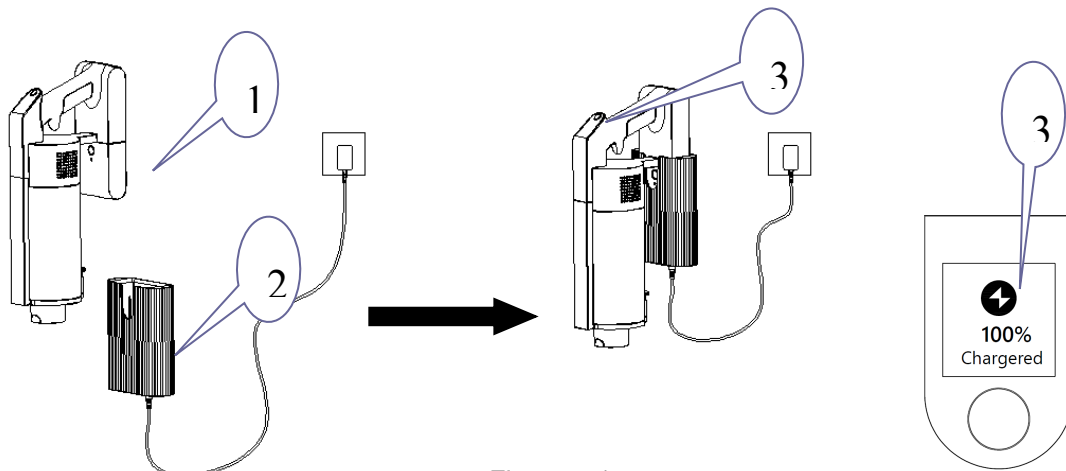

Figure 5-1
5.1 Charging mode 1: Hang main unit (NO.1) to wall mount (NO.2). Plug the charger output end in the battery and connect input end to main socket. The charge indicator (NO.3) shows 100% power when fully charged. See Figure 5-1. Charging time is 4 to 6 hours.